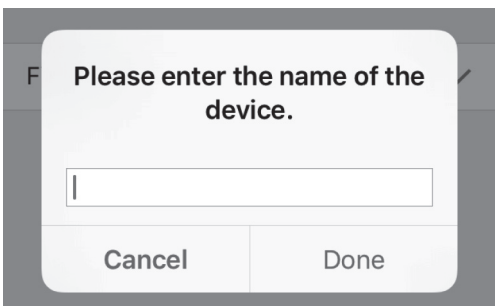
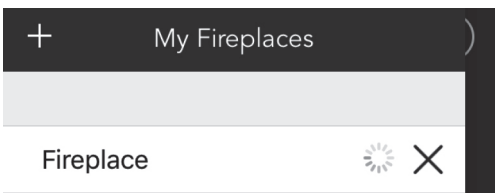

Fig. 4
Fig. 5
5. Enter a name for the fireplace (Fig. 4) and wait for it to connect (Fig. 5)